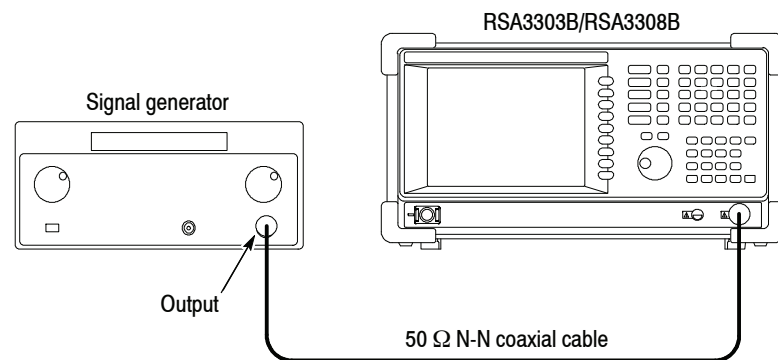

Figure 3-13: Initial test hookup
b. *Hook up the generator:* Connect the generator output through a 50 Ω N-N coaxial cable to the analyzer **Input**. See Figure 3-13.